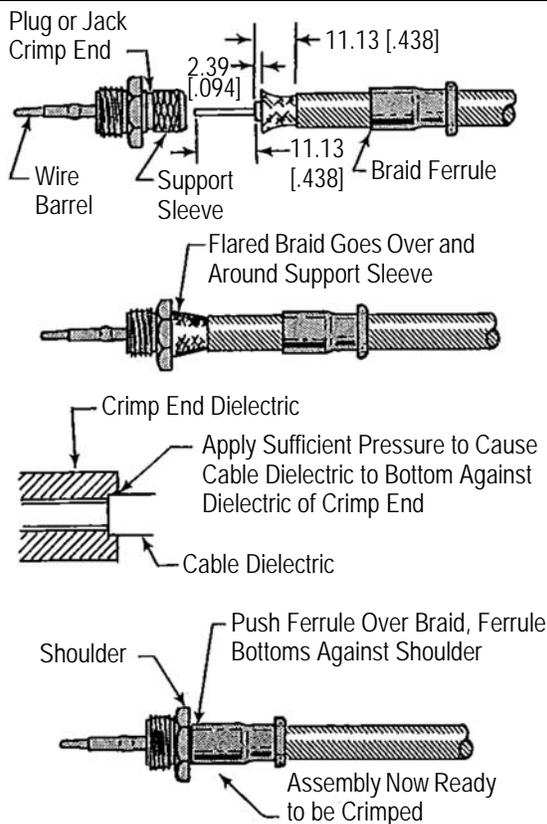

Figure 2
- Slip the ferrule on the cable, then strip the cable and flair braid as shown in Figure 2.
3. Push crimp end back under braid so that the braid passes over and around the support sleeve. Apply sufficient pressure to cause the cable dielectric to bottom against the dielectric of the crimp end. See Figure 2. Twist the crimp end slightly to ensure bottoming.
4. Slide the ferrule forward and over the braid on the crimp end as far as it will go. Crimp end is now ready to be crimped. See Figure 2.